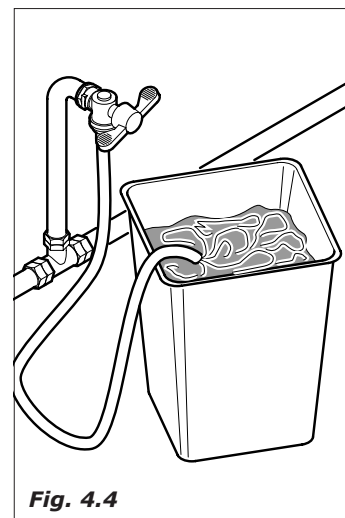

Fig. 4.4
- before making water connections, make some water flow out of the tap so as to eliminate possible traces of impurities and dirt (Fig.4.4)